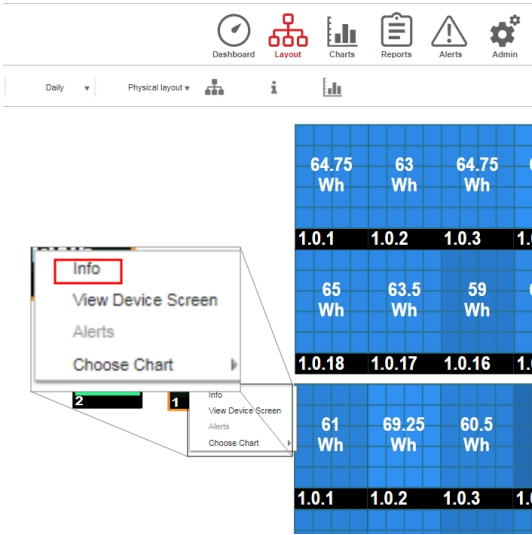
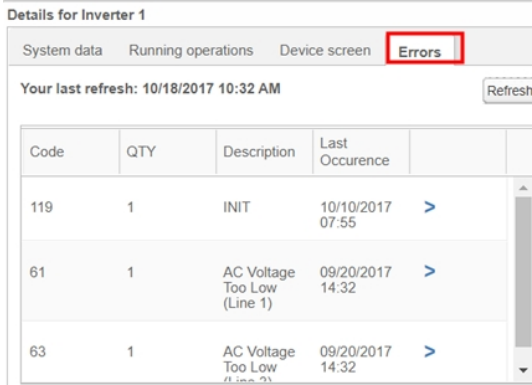

Figure 27: Inverter menu
Figure 28: Inverter details - Error list
- 2. Right-click the inverter and select **Info** from the menu (*Figure 27*). The inverter details window is displayed (*Figure 28*).